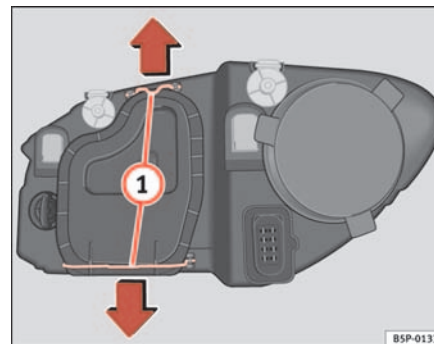

Fig. 181 Dipped head-lights
- Remove the loops ⇒ page 251, fig. 181 ① in the direction of the arrow and remove the cover.